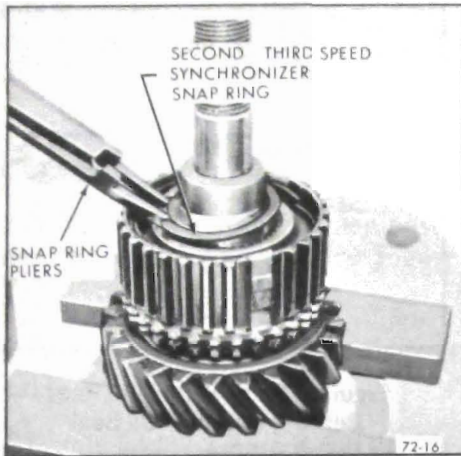

Figure 72-16 - Removing Second-Third Speed Synchronizer Snap Ring
7. Remove second-third speed synchronizer assembly snap ring. See Figure 72-16.